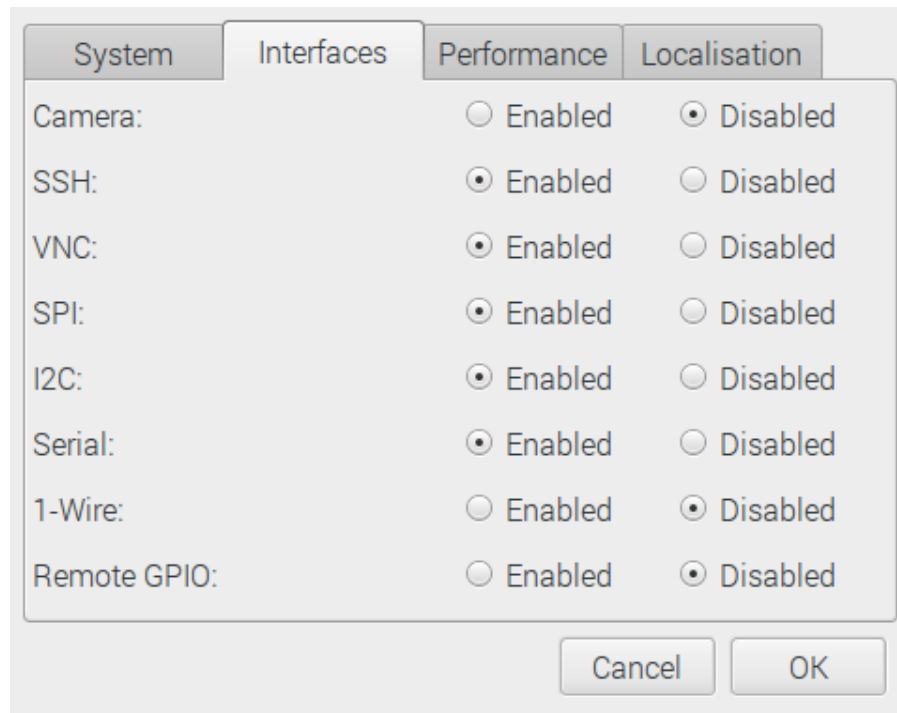

Figure 5: Raspberry Pi interface configuration
- Next, the peripherals have to be enabled. To do so open the menu by clicking on the Raspberry Pi symbol on the left upper corner of the screen and open the **Preferences** → **Raspberry Pi Configuration** window (see figure 5). Enable the SPI or serial depending on the required interface.